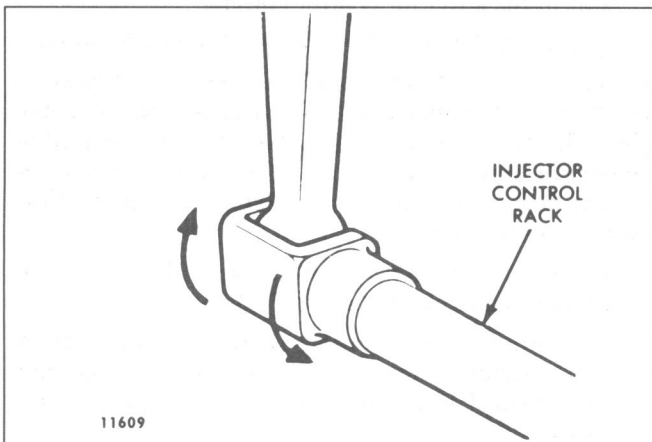

Fig. 3 – Checking Rotating Movement of Injector Control Rack
5. To be sure of the proper rack adjustment, hold the stop lever in the *run* position and press down on the injector rack with a screwdriver or finger tip and note the “rotating” movement of the injector control rack when the stop lever is in the *run* position (Fig. 3). Hold the stop lever in the *run* position and, using a screwdriver, press downward on the injector control rack. The rack should tilt downward and, when the pressure of the